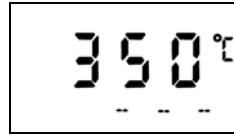

Fig 13
3.1. When "CALI" status display "--" (see Fig 13),it means temperature have not calibration.
In the main menu, press knob for 9 seconds into the "REST" mode, initial setting is "NO" (see Fig18), rotate around the knob , choose "YES" (see Fig 13) and press knob confirm it, Press knob to save and exit back to the main menu.